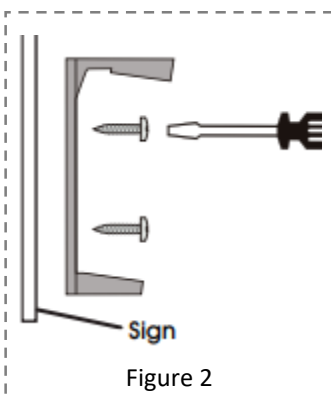

Figure 2
4. Position the sign and dispenser mounting bracket over the holes in the wall and fasten with two slotted screws (Figure 2)